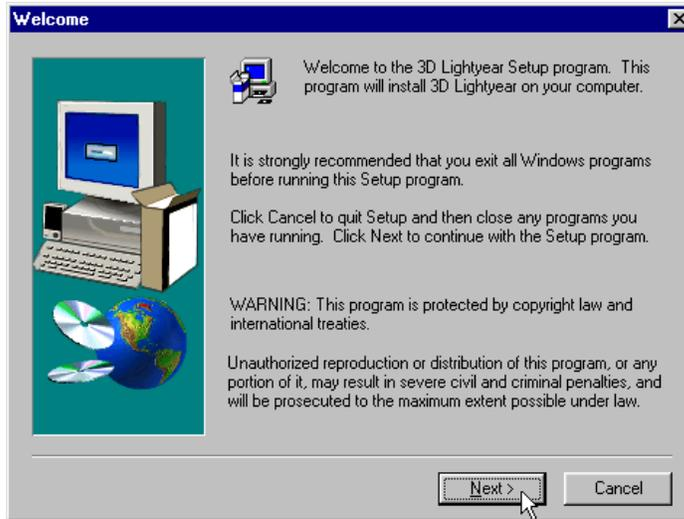

Figure 5. The 3D Lightyear software Setup Program automatically installs the program on your PC's hard disk drive.
- 7. Click "Finish". Following the preceding steps launches the 3D Lightyear software setup program (see Figure 5), in which you will be prompted to:**